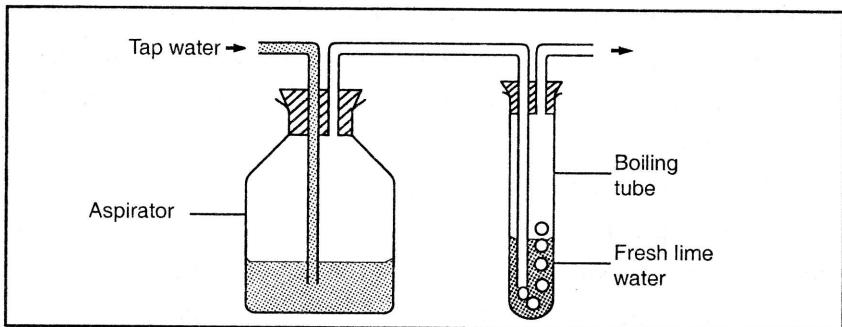

Fig. 4.5: Demonstration of presence of carbon (IV) oxide in air
- (a) Place 2cm³ of fresh lime water in a boiling tube. Pass water slowly from a tap into an aspirator as shown in figure 4.5. Record your observations.